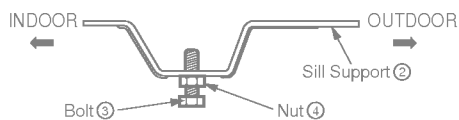

Fig. 3
- Loosely assemble the Sill Support ② using the parts in Fig. 3.